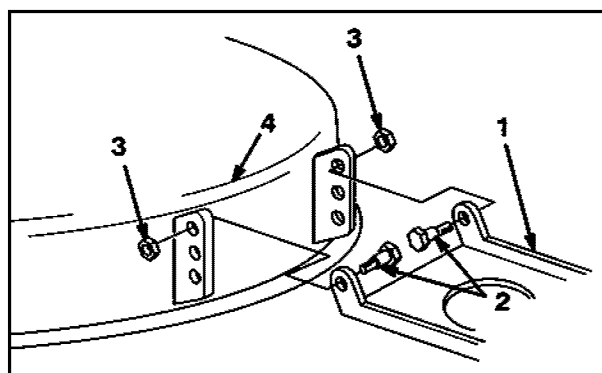

Figure 42
7. If the 1/4 to 5/8 inch (6-16mm) pitch cannot be achieved by rotating the adjusting nuts, move the mower pivot mount at the front of the mower housing (Figure 42).